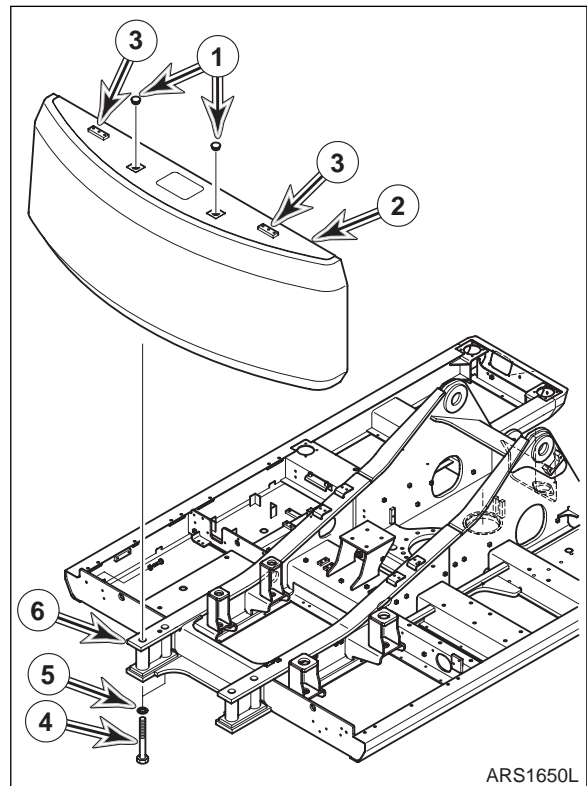

Figure 4
8. Remove two caps (1, Figure 4) from counterweight (2).
9. Install two lifting eyes in lifting holes (3, Figure 4).
10. Using a suitable lifting device capable of handling load, partially support counterweight (2, Figure 4) before beginning to loosen four bolts (4). Stop lifting with assist crane as soon as lifting slings are taut.
11. Remove four bolts (4, Figure 4) and washers (5) from counterweight (2).
12. When bolts (4, Figure 4) and washers (5) have been removed, lift counterweight (2)